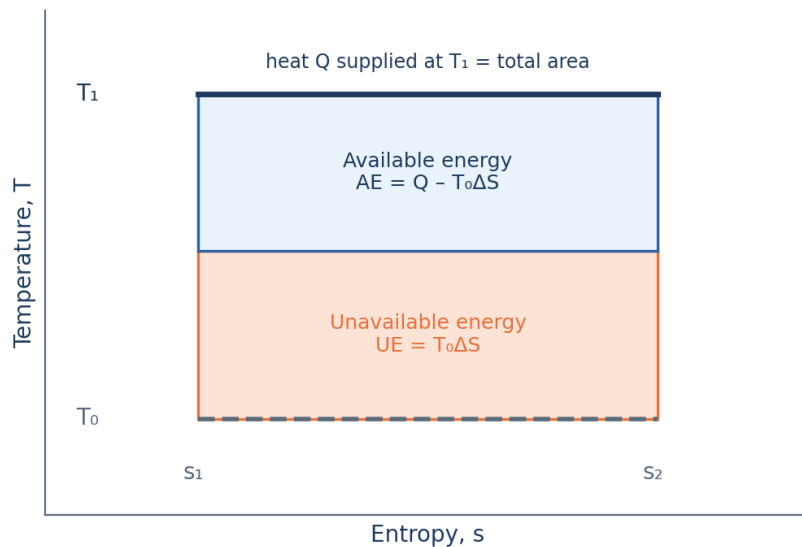

Figure 2.8 Available and unavailable energy of heat supplied at T_1 with surroundings at T_0 on the T - s diagram.
The **available energy (AE)**, also called the *available part of the energy* or *exergy*, is the portion of the heat that can be converted into useful work by an ideal engine; the **unavailable energy (UE)** is the portion that must be rejected to the surroundings and can never be converted into work. On the T - s diagram (Figure 2.8) the heat Q is the whole area under the constant-temperature line T_1 between s_1 and s_2 ; the unavailable energy is the rectangle $T_0(s_2 - s_1)$ beneath T_0 , and the available energy is the area between the two lines. The unavailable energy therefore depends on the temperature of the surroundings – on a cold day more of a given quantity of heat is available – and increases with the entropy transferred: **UE = $T_0 \times$ (entropy change during heat supply)**.